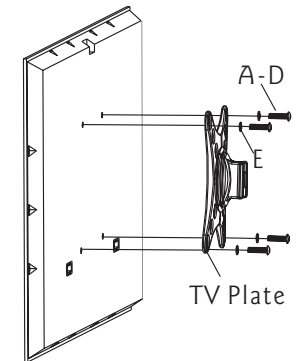

Fig 3
According LCD hole's size, deep, position to choose bolts. Using chose bolts (A-D) and washers (E) to install the LCD on the panel. As shown in Fig3.